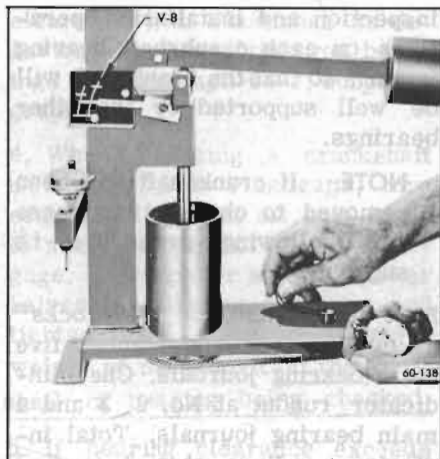

Figure 60-223—Checking Lifter Leakdown Rate
4. Lower the ram to rest in the lifter push rod seat, then lower the weight arm to rest on the roller of ram as shown in Figure 60-223.